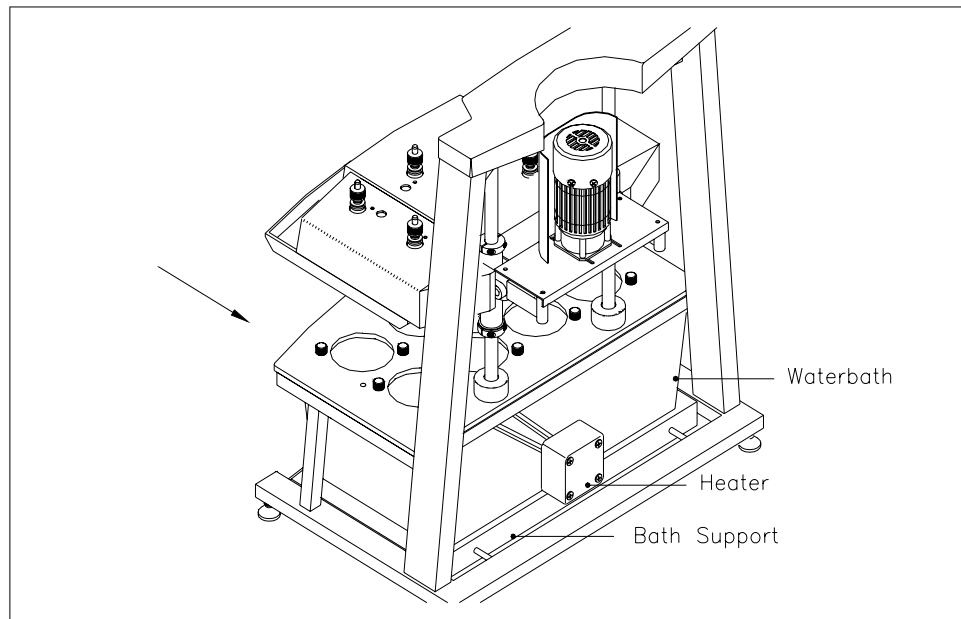

Figure 4-10: Positioning the Bath
2. With the heater toward the back, slide in the bath on top of the bath support. (see Figure 4-10)